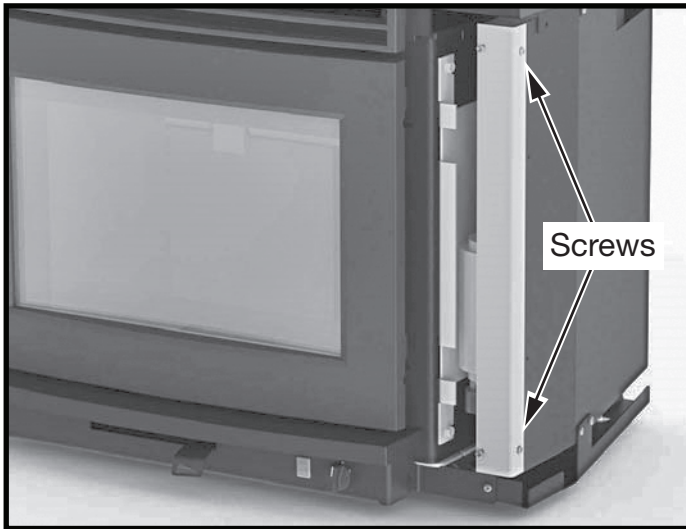

Figure 5: Surround mounting bracket screws.
2. Remove the surround mounting bracket by removing the two screws securing the bracket to the side casing of the unit (Figure 5) (may require the unit to be pulled out slightly).